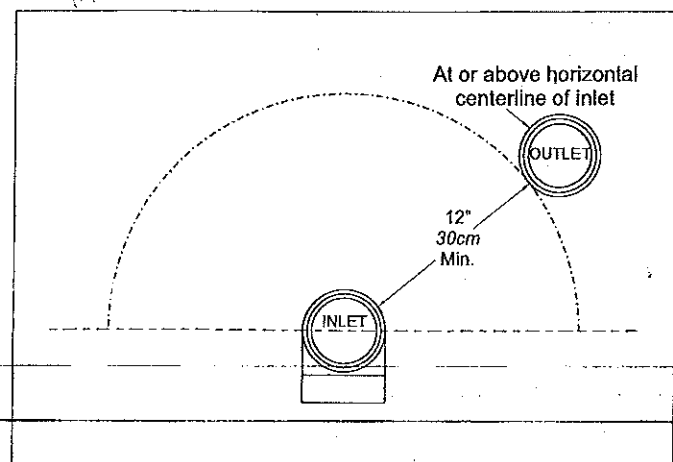

Figure 8. Minimum Venting Distance.
6. Vent outlet must be no lower than the center of the air inlet, and must be at least 12" (30cm) away from the air inlet (see Figure 8).